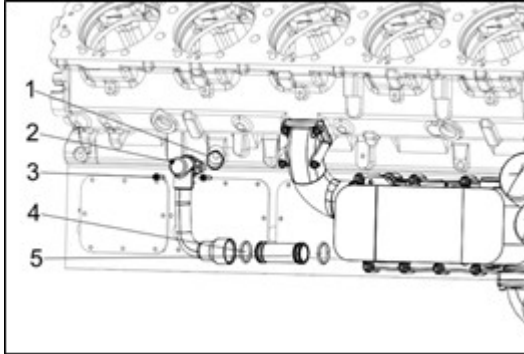

Figure 165
9. Install the oil cooler oil outlet pipe (Fig 165, item 20), fit the O-ring (Fig 165, item 4) to the joint pipe (Fig 165, item 5), connect the oil outlet pipe with the oil cooler, tighten the fixed bolts (Fig 165, item 3) with O-ring (Fig 165, item 1). Torque bolts to 35 N·m.